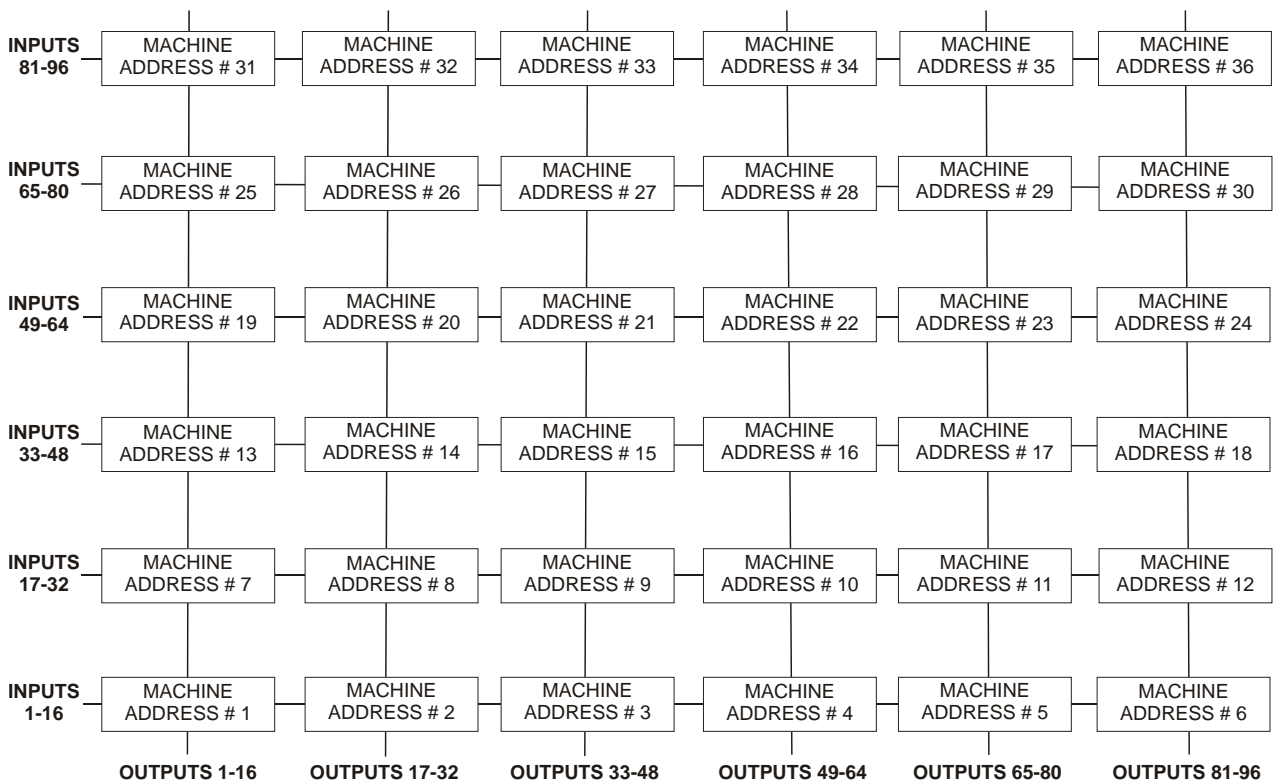
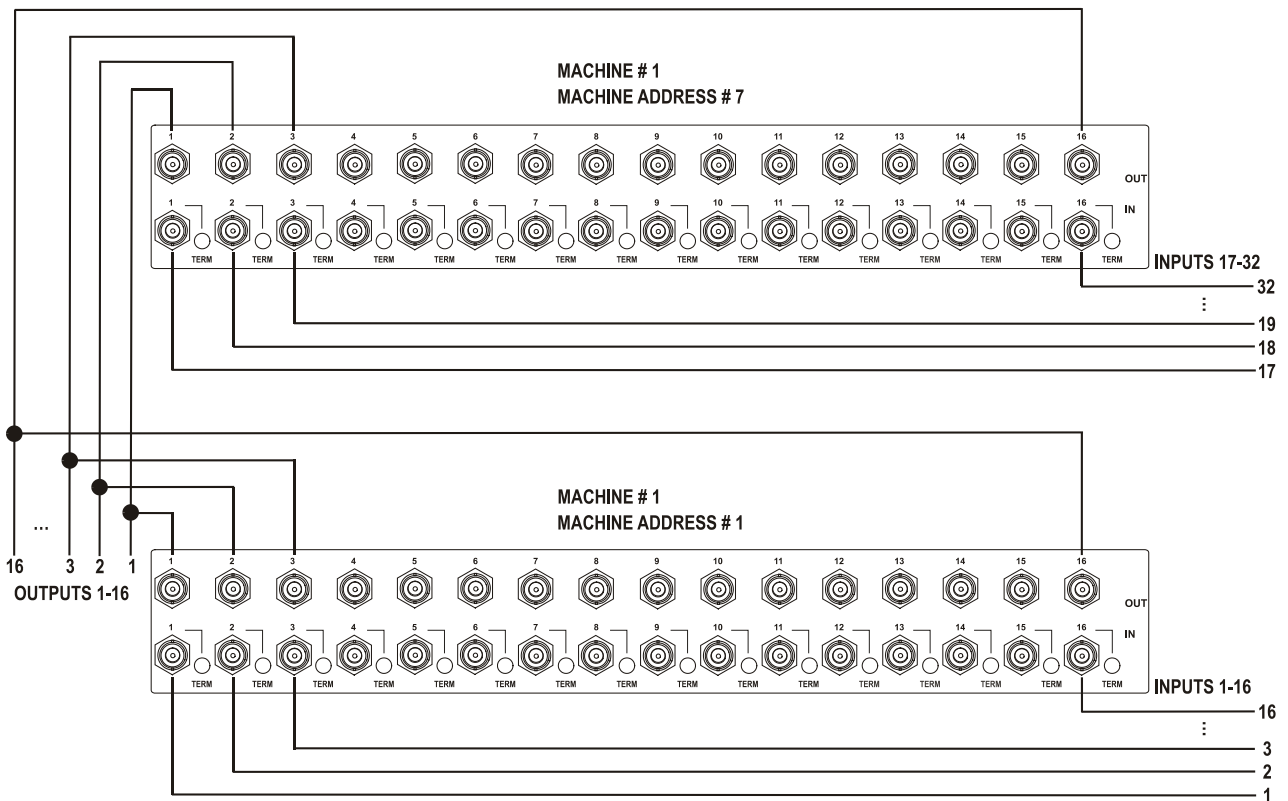
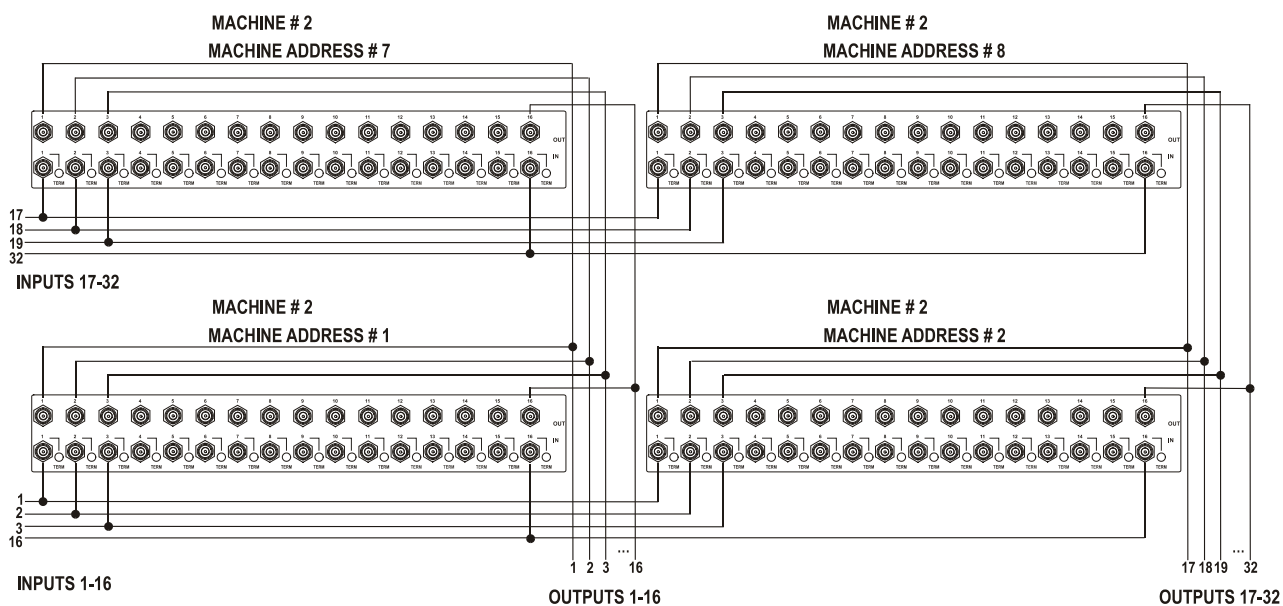

Figure 8: MACHINE ADDRESS # Designation
Figure 9: Configuring a 32x16 Switcher
Figure 10: Connecting the 32x32 Switcher
You can greatly expand the number of inputs and outputs using several **VS-162V** units¹. To do this, you must set a unique **MACHINE ADDRESS #** (see section 8.3) on each **VS-162V** unit. This defines which inputs and outputs are configured to a particular unit, as the chart in Figure 8 illustrates.
For example, to connect a 48x64 switcher (48 inputs and 64 outputs), you would configure using **MACHINE ADDRESS # 1, 2, 3, 4; 7, 8, 9, 10; 13, 14, 15** and 16. You can only choose a rectangular² configuration from the chart in Figure 8.
A 32x16 switcher consists of two **VS-162V** units (MACHINE ADDRESS # 1 and MACHINE ADDRESS # 7), as shown in Figure 8. To make this configuration, as shown in Figure 9:
2. Set the MACHINE ADDRESS # on one **VS-162V** unit to 1 and on the other **VS-162V** unit to 7 (refer to Figure 8).
As shown in Figure 8, a 32x32 switcher consists of four **VS-162V** units (MACHINE ADDRESS # 1, MACHINE ADDRESS # 2, MACHINE ADDRESS # 7 and MACHINE ADDRESS # 8). To assemble, as shown in Figure 10:
2. Set the MACHINE ADDRESS # to 1, 2, 7 and 8 on each of the four units, respectively (refer to Figure 8).
¹ Set to # 1 in most cases. In the example in Figure 10, the MACHINE # is set to # 2
- When configuring multiple **VS-162V** units or a matrix of **VS-162V** machines, the array is viewed as one large unit and the DIP-switches of all machines are set to the same **MACHINE#**. However, each machine is set to a unique **MACHINE ADDRESS #** with a menu command on its display panel according to the addressing rule shown in Figure 8
The MACHINE ADDRESS # is determined via the MACHINE ADDRESS Menu command, as section 11.4 describes. The MACHINE ADDRESS # defines which inputs and outputs are configured to that particular unit when expanding, as the chart in Figure 8 illustrates.